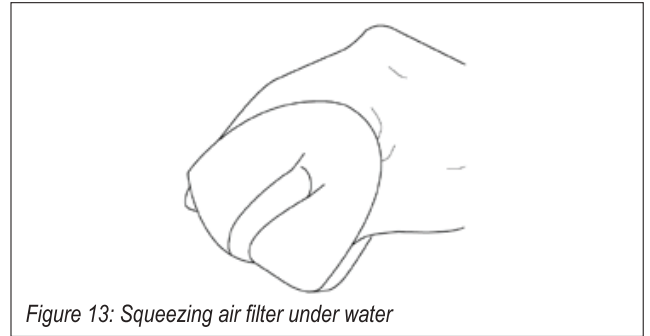

Figure 13: Squeezing air filter under water
6. Rinse in clean water by submerging the air filter element in fresh water and applying a slow squeezing action (see Figure 13).